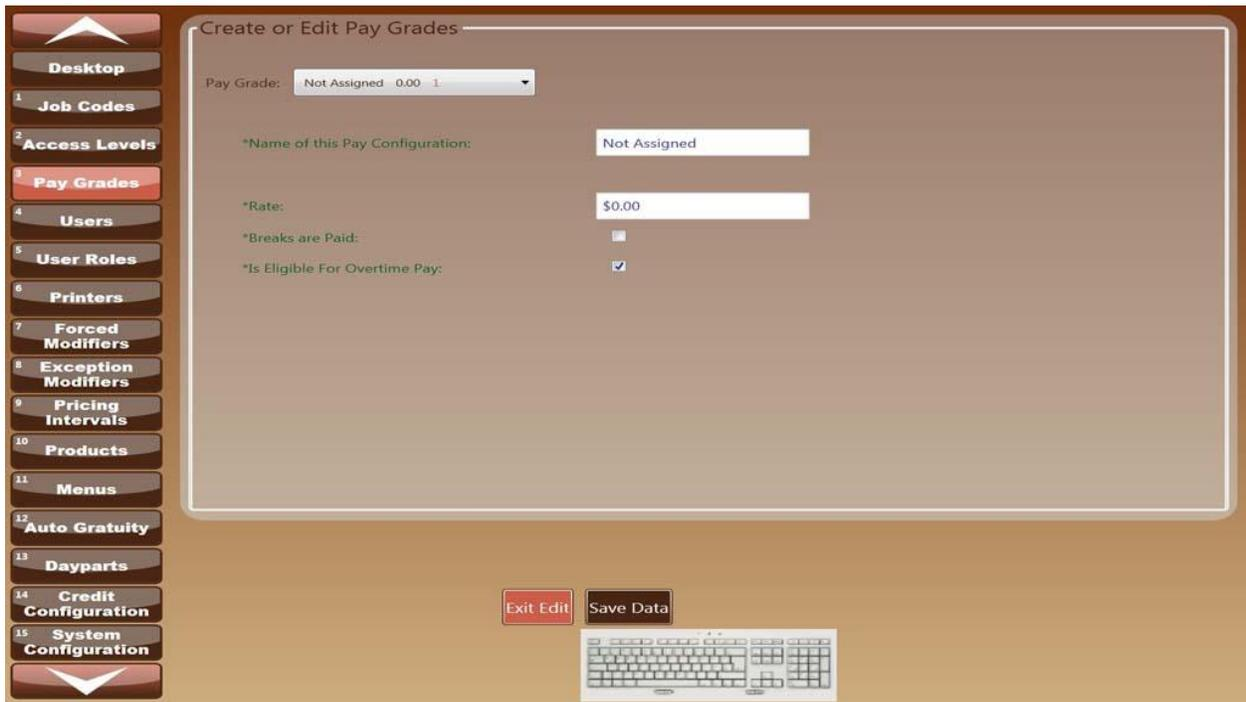
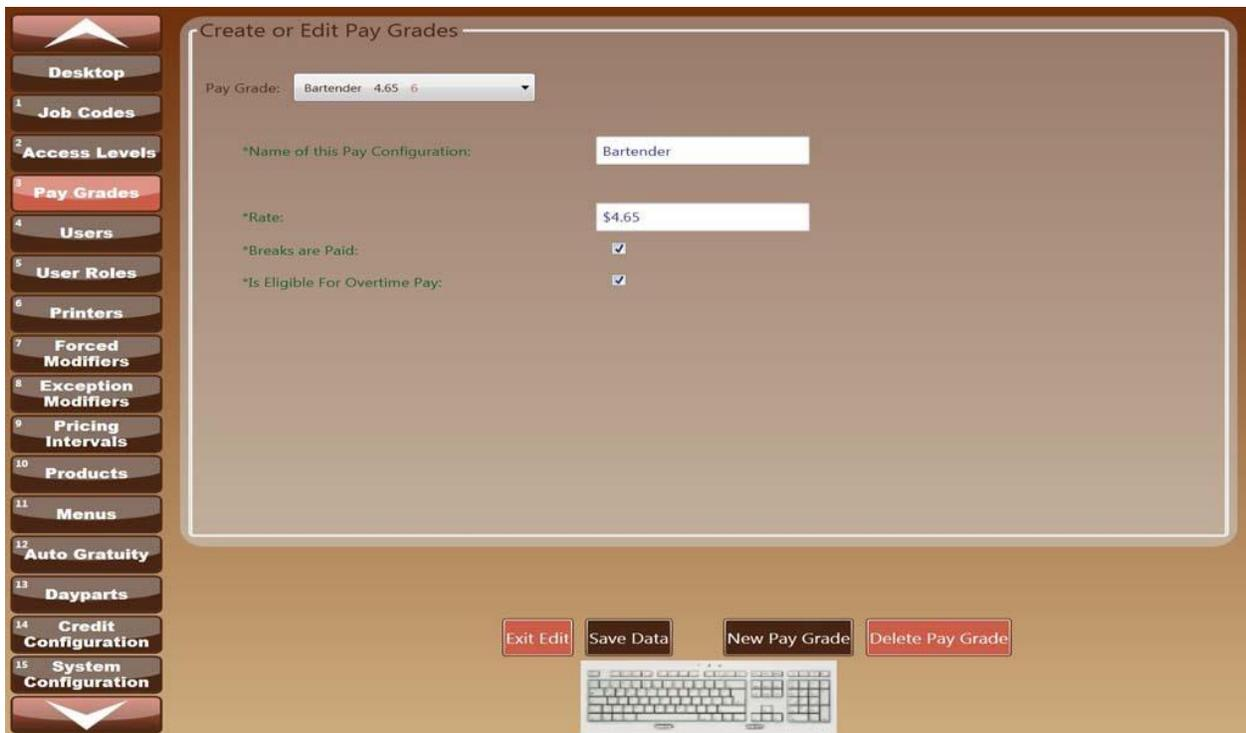
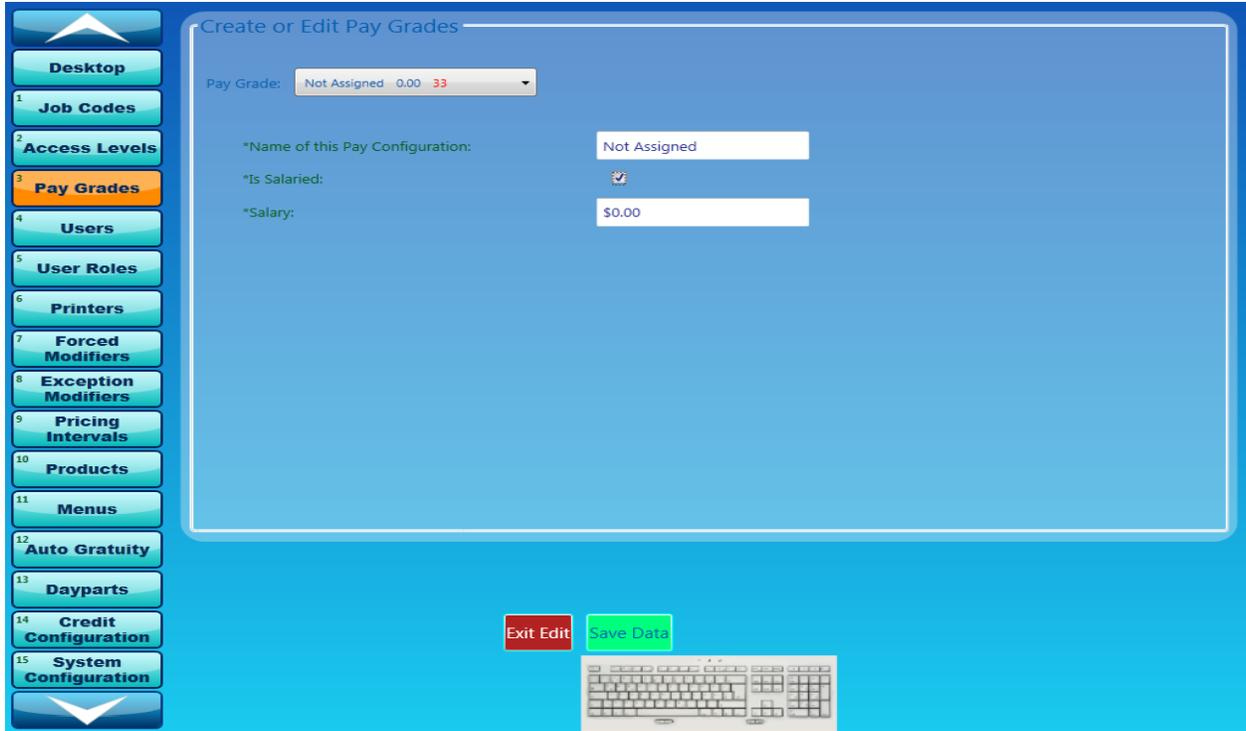
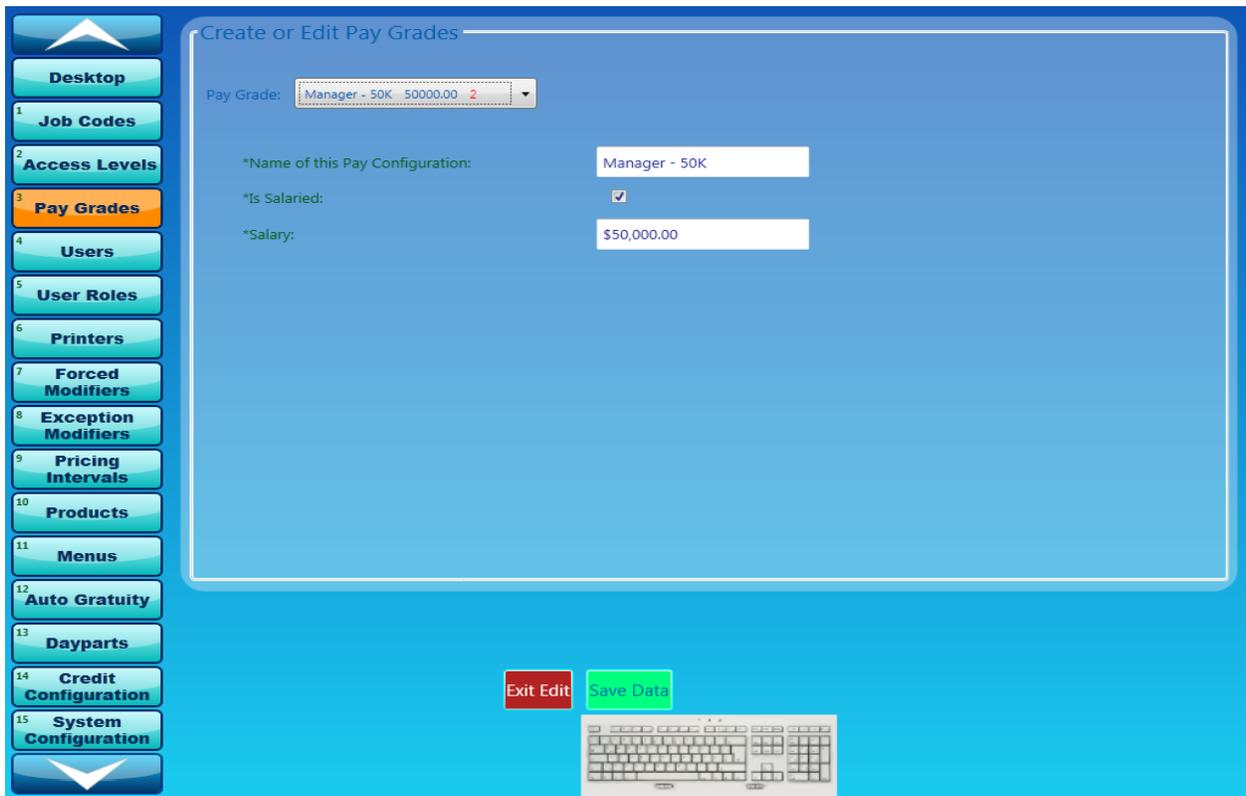

Figure 6
Figure 7
Figure 8
Figure 9
*See Figure 6, Figure 7, Figure 8, Figure 9*